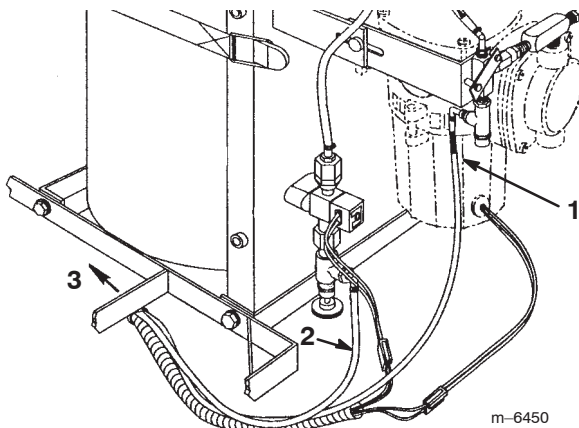

Figure 2
3. Mark a 108 inch supply hose with a black marker at each end (Fig. 2).
4. Connect the marked supply hose to the hose barb at the compressor and the other supply hose to the hose barb on the needle valve (Fig. 2).